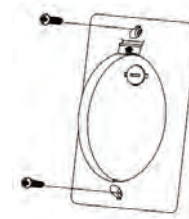

Fig. 24
Step 1. Select a location to install your handset control holder; install the holder as shown. (Fig. 24)